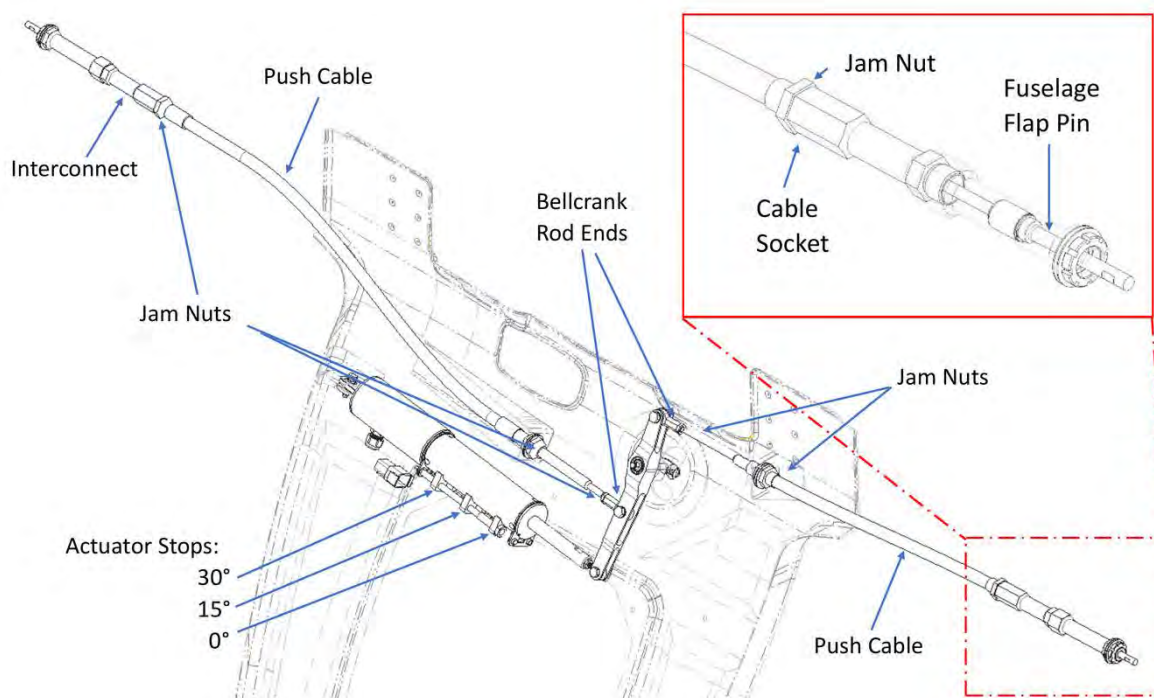
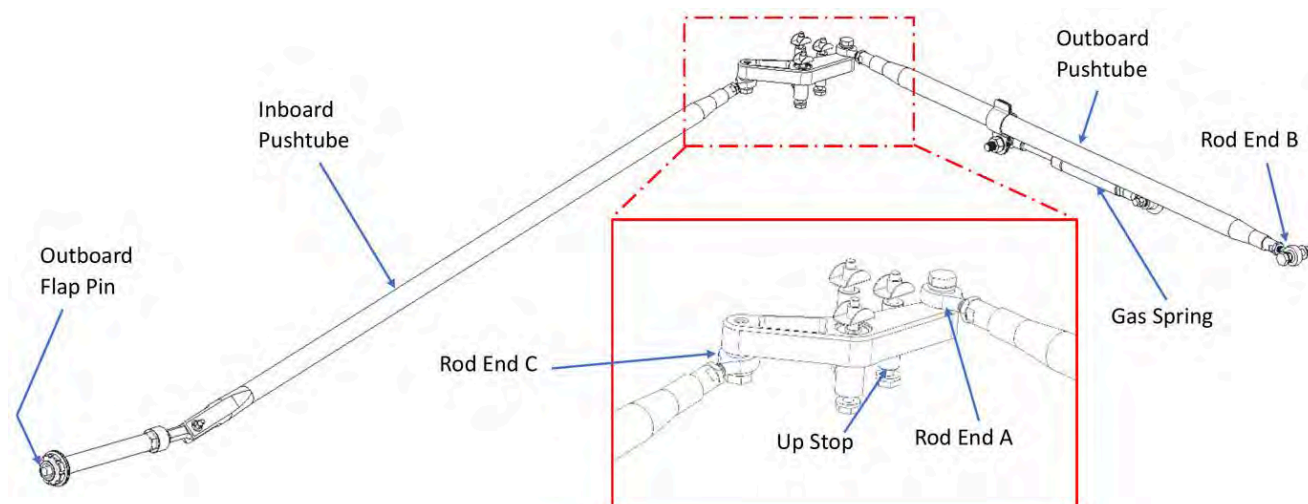

FIGURE 10-43
FIGURE 10-44
WARNING: Wear safety glasses when installing helicoils. Parts outside the aircraft, inside the aircraft installation orientation might be different. Figure 10-43
3. Flap System Rigging Process. See Figure 10-43.
5. Adjust the outboard push tube. Adjust rod end A and B length equally such that the flap bellcrank contacts the up-stop and the flap trailing edge lines up with the trailing edge of the center wing as described in Figure 10-44. Refer to Figure 10-43 for actuator location.
- c. See Figure 10-43 for actuator stop locations. Actuate the flaps to 30° then back to 0°. Verify the flap returns to 0° due to the gas spring extension force. If the system does not return, adjust the 30° actuator stop to reduce range of motion. Ensure the flap travel limits are still within the tolerance specified in Figure 10-45.